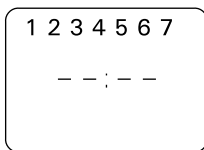

Figure 13.
- press the [Ch] -program button once to enter the program timings. The screen will then return to the mode as seen in the diagram. (Fig. 13)